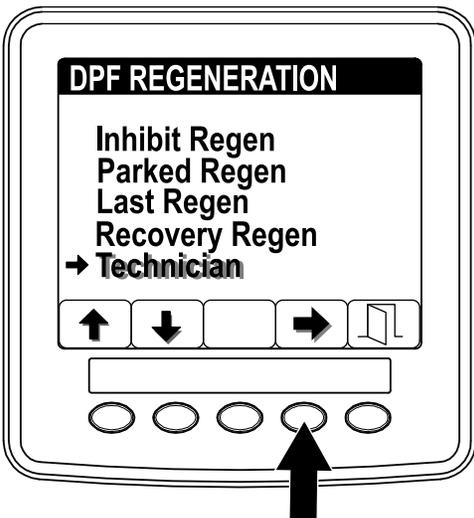

Figure 7
- Access the DPF Regeneration menu, and press buttons 1 or 2 to scroll down to the TECHNICIAN option (Figure 7).
- Press the button 4 to select the Technician entry (Figure 7)